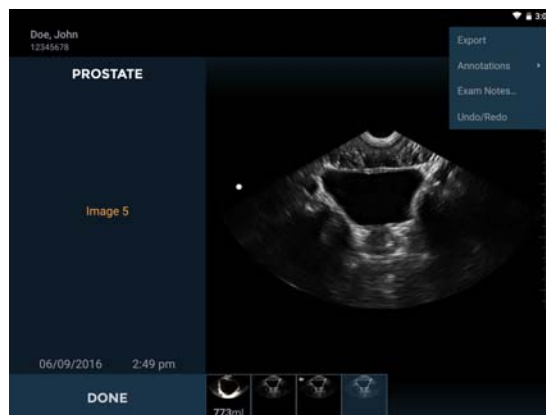

Fig 4.1 Annotating
- Select *Annotation* from the drop down list (Fig 4.1).
- Select *Exam Notes* from the drop down list (Fig 4.1).